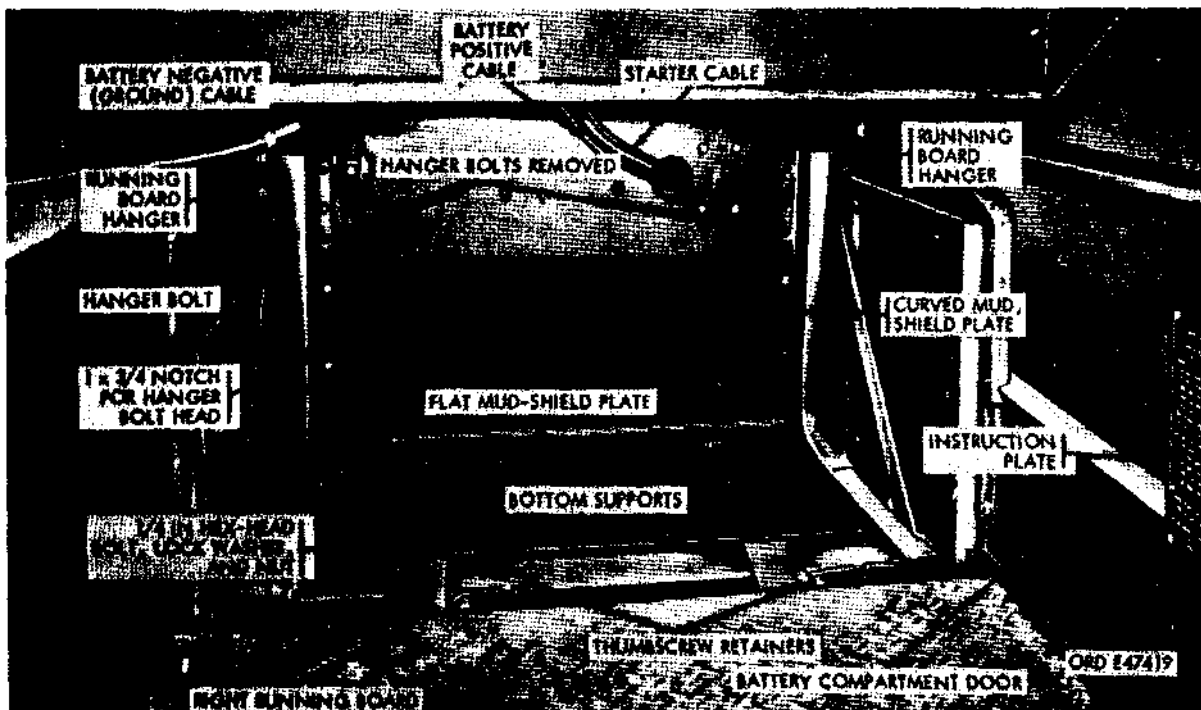

Figure 630. Mud-shield plates installed in original battery compartment
- (1) Remove the two batteries (TM 9-2320-211-20).
- (2) Discard battery box.
- (3) Remove the four hanger bolts from the top inner sides of the running board hangers (fig. 630).
(a) Position the curved mud-shield plate (fig. 626) in the battery compartment, against the running board hangers, so that the curve at the bottom of the plate rests inside the curve of the running board hangers (fig. 630). Scribe the location of the hanger bolt head on the plate, cut out a notch 1-inch wide by 3/4-inch deep, and install hanger bolt (fig. 630).
(b) Using the holes in the plate as a template scribe and drill four 5/16-inch holes through running board hangers and install the four 1/4-inch hex-head bolts, lockwashers, and nuts (fig. 630).
(a) Position the flat mud-shield plate (fig. 626) on the two bottom supports in the battery compartment, with edges equally spaced, as shown in figure 630.
(b) Using the holes in the plate as a template scribe and drill four 5/16-inch holes through the bottom supports, and install the four 1/4-inch hex-head bolts, lockwashers, end nuts (fig. 630).